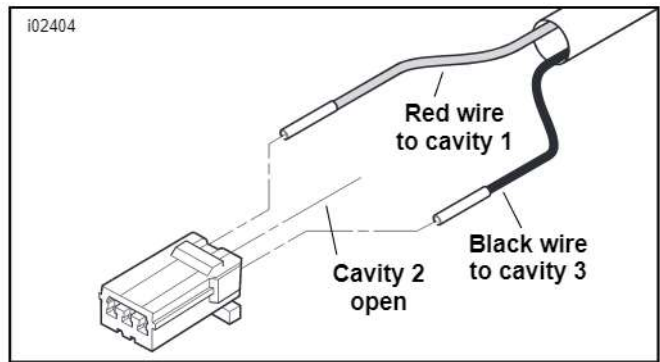

Figure 19. Wiring the Socket Housing
Insert the terminals on the ends of the red and black wires into the socket housing (11) from the kit as shown in Figure 19. Refer to AMP MULTILOCK ELECTRICAL CONNECTORS in the Service Manual.